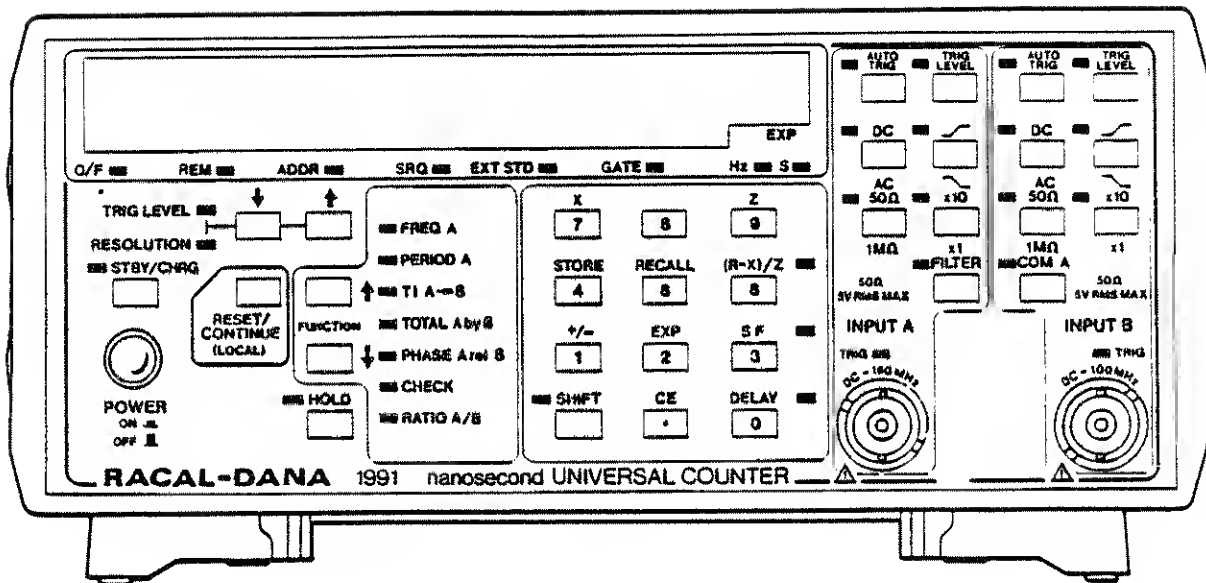

Figure 1.1 - Model 1991 Universal Timer/Counter
1.1.1 This Instruction Manual provides information for installing, operating, and servicing of Racal-Dana's 1991 and 1992 Universal Timer Counters. Figures 1.1 and 1.2 are front views of the 1991 and 1992. The 1991 offers universal counter functions using Inputs A and B. The 1992 also provides frequency measurements to 1.3 GHz using Input C.